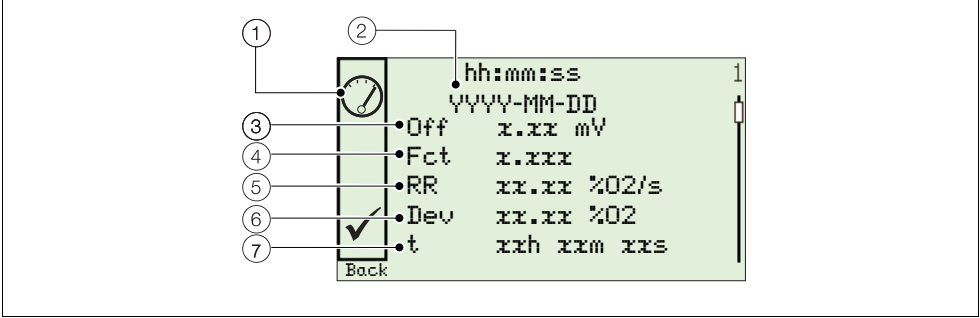

Fig. 8.2 Typical Performance Log and Performance Code Structure
When the *Performance Log* is selected, an icon (① in Fig. 8.2) at the left side of the display indicates a successful or failed calibration or accuracy check; or if a new probe / cell has been fitted. Icon types are shown in Table 8.6 below: